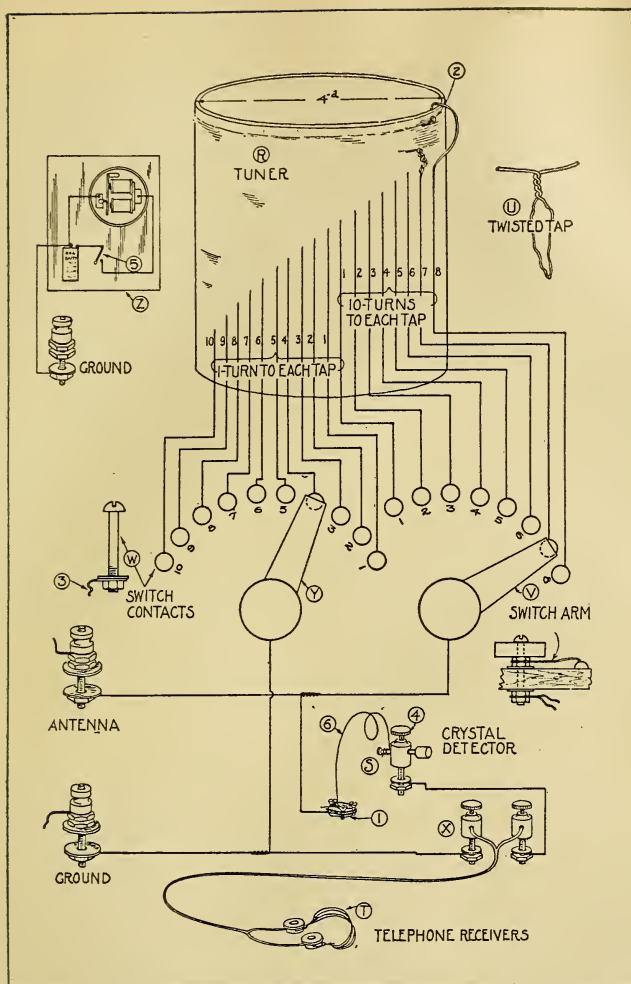

Fig. 3.—Constructional details of the simple radio receiving set designed by the U. S. Bureau of Standards for the use of laymen.
*Tuner (R, Fig. 3)*—This is a piece of cardboard or other non-metallic tubing with turns of copper wire wound around it. The cardboard tubing may be an oatmeal box. Its construction is described in detail below.
*Crystal Detector (S, Fig. 3)*—The construction of a crystal detector may be of very simple design and quite satisfactory. The crystal, as it is ordinarily purchased, may be unmounted or mounted in a little block of metal. For mechanical reasons the mounted type may be more satisfactory, but that is of no great consequence. It is very important, however, that a very good tested crystal be used. It is probable also that a galena crystal will be more satisfactory to the beginner.
The crystal detector may be made up of a tested crystal, three wood screws, short pieces of copper wire, a nail, set screw type of binding post, and a wood knob or cork. The tested crystal is held in position on the wood base by three brass wood-screws as shown at I Fig. 3. A bare copper wire may be wrapped tightly around the three brass screws for contact. The assembling of the rest of the crystal detector is quite clearly shown in Fig. 3.
*Phone (T, Fig. 3)*—It is desirable to use a pair of telephone receivers connected by a head band, usually called a double telephone headset. The telephone receivers may be any of the standard commercial makes having a resistance of between 2000 and 3000 ohms. The double telephone receivers will cost more than all the other parts of the station combined but it is desirable to get them, especially if one plans to improve his receiving set later. If one does not care to invest in a set of double telephone receivers a single telephone receiver with a head band may be used; it gives results somewhat less satisfactory.
*Tuner*—See R. Fig. 3. Having supplied one's self with a piece of cardboard tubing 4 inches in diameter and about  $\frac{1}{2}$  pound of No. 24 (or No. 26) double cotton covered copper wire, one is ready to start the winding of the tuner. Punch two holes in the tube about  $\frac{1}{2}$  inch from one end as shown at 2 on Fig. 3. Weave the wire through these holes in such a way that the end of the wire will be quite firmly anchored, leaving about 12 inches of the wire free for connections. Start with the remainder of the wire to wrap the several turns in a single layer about the tube, tightly and closely together. After *ten* complete turns have been wound on the tube hold those turns snugly while a tap is being taken off. This tap is made by making a 6 inch loop of the wire and twisting it together at such a place that it will be slightly staggered from the first tap. This method of taking off taps is shown quite clearly at U, Fig. 3. Proceed in this manner until six twisted taps have been taken off at every ten turns. After these first seventy turns have been wound on the tube then take off a 6 inch twisted tap for every succeeding single turn until ten additional turns have been wound on the tube. After winding the last turn of wire anchor the end by weaving it through two holes punched in the tube much as was done at the start, leaving about 12 inches of wire free for connecting. It is to be understood that each of the eighteen taps is slightly staggered from the one just above, so that the several taps will not be bunched along one line on the cardboard tube. See Fig. 3. It would be advisable, after winding the tuner as just described, to dip the tuner in hot paraffin. This will help to exclude moisture.
holes for the binding posts, switch arms and switch contacts may first be laid out and drilled. The "antenna" and "ground" binding posts may be ordinary  $\frac{1}{8}$  inch brass bolts of sufficient length and supplied with three nuts and two washers. The first nut binds the bolt to the panel, the second nut holds one of the short pieces of stiff wire, while the third nut holds the antenna or ground wire as the case may be. The switch arm with knob shown at V, Fig. 3, may be purchased in the assembled form or it may be constructed from a thin slice cut from a broom handle and a bolt of sufficient length equipped with four nuts and two washers together with a narrow strip of thin brass somewhat as shown. The switch contacts (W, Fig. 3) may be of the regular type furnished for this purpose or they may be brass bolts equipped with one nut and one washer each or they may even be nails driven through the panel with an individual tap fastened under the head or soldered to the projection of the nail through the panel. The switch contacts should be just close enough that the switch arm will not drop between the contacts but also far enough apart that the switch arm can be set so as to touch only one contact at a time.
The telephone binding post should preferably be of the set screw type as shown as X, Fig. 3.
Having constructed the several parts just mentioned and mounted them on the wood base, one is ready to connect the several taps to the switch contacts and attach the other necessary wires. Scrape the cotton insulation from the loop ends of the sixteen twisted taps as well as from the ends of the two single wire taps coming from the first and last turns. Fasten the bare ends of these wires to the proper switch contacts as shown by the corresponding numbers in Fig. 3. One should be careful not to cut or break any of the looped taps. It would be preferable to fasten the connecting wires to the switch contacts by binding them between the washer and the nut as shown at 3, Fig. 3. A wire is run from the back of the binding
post marked "ground" (Fig. 3) to the back of the left-hand switch-arm bolt (Y), thence to underneath the left-hand binding post marked "phones." A wire is then run from underneath the right-hand binding post marked "phones" to underneath the binding post (4, Fig. 3), which forms a part of the crystal detector. A piece of No. 24 bare copper wire about  $2\frac{1}{2}$  inches long, one end of which is twisted tightly around the nail (the nail passing through
binding post 4) the other end of which rests gently by its own weight on the crystal (1). The bare copper wire which was wrapped tightly around the three brass wood-screws holding the crystal in place is led to and fastened at the rear of the right-hand switch-arm bolt (V), thence to the upper left-hand binding post marked "antenna." As much as possible of this wiring is shown in Fig. 3.
*The Test Buzzer*—(Z, Fig. 3)—As mentioned previously, it is easy to find the more sensitive spots on the crystal by using a test buzzer. The test buzzer is used as a miniature local transmitting set. When connected to the receiving set as shown at Z, Fig. 3, the current produced by the buzzer will be converted into sound by the
telephone receivers and the crystal, the loudness of the sound depending on what part of the crystal is in contact with the fine wire. To find the most sensitive spot connect the test buzzer to the receiving set as directed, close the switch (5, Fig. 3) (and if necessary adjust the buzzer armature so that a clear note is emitted by the buzzer), set the right-hand switch arm on contact point No. 8, fasten the telephone receivers to the binding posts marked "phones," loose the set screw of the binding post slightly and change the position of the fine wire (6, Fig. 3) to several positions of contact with the crystal until the loudest sound is heard in the phones, then tighten the binding post set screw (4) slightly.